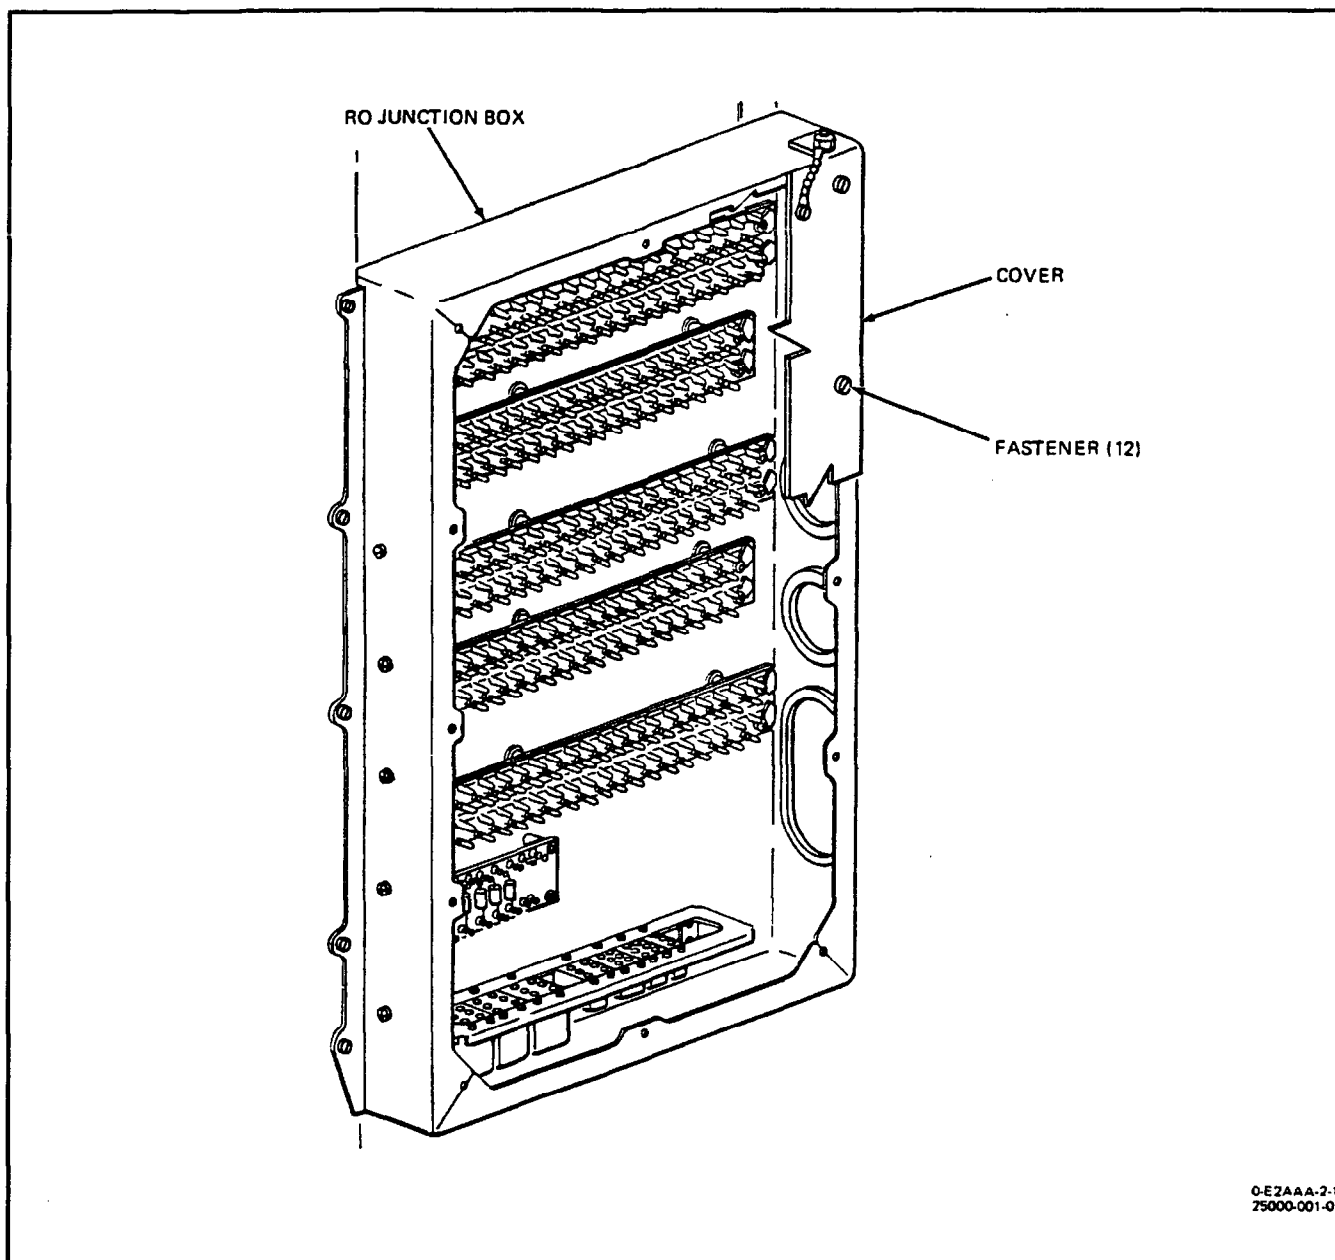

Figure 1. RO Junction Box
3. **REPAIR.** (See figure 1.)